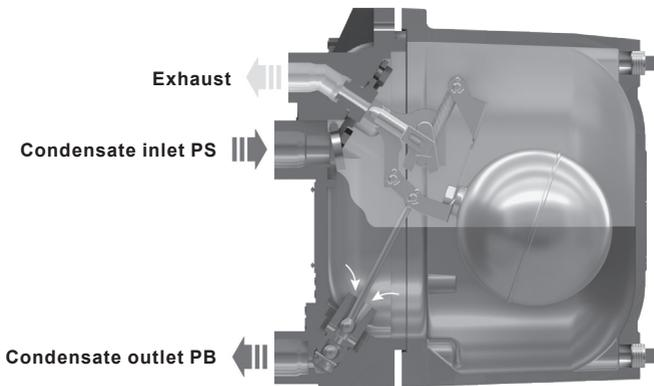

Fig. 6
Step 1 (Fig. 6)
The APT10 automatic pump trap operates on a positive displacement principle. Condensate enters the body through the inlet swing check valve causing the float to rise. The float is connected to the trap mechanism via a lever to pivot arrangement. If the upstream system pressure PS is sufficient to overcome the backpressure PB (Fig. 6), the build up of condensate will be discharged through the opening trap mechanism. In this way, the float will automatically modulate according to the rate of condensate entering the APT10, controlling the rate of opening and closure of the trap.